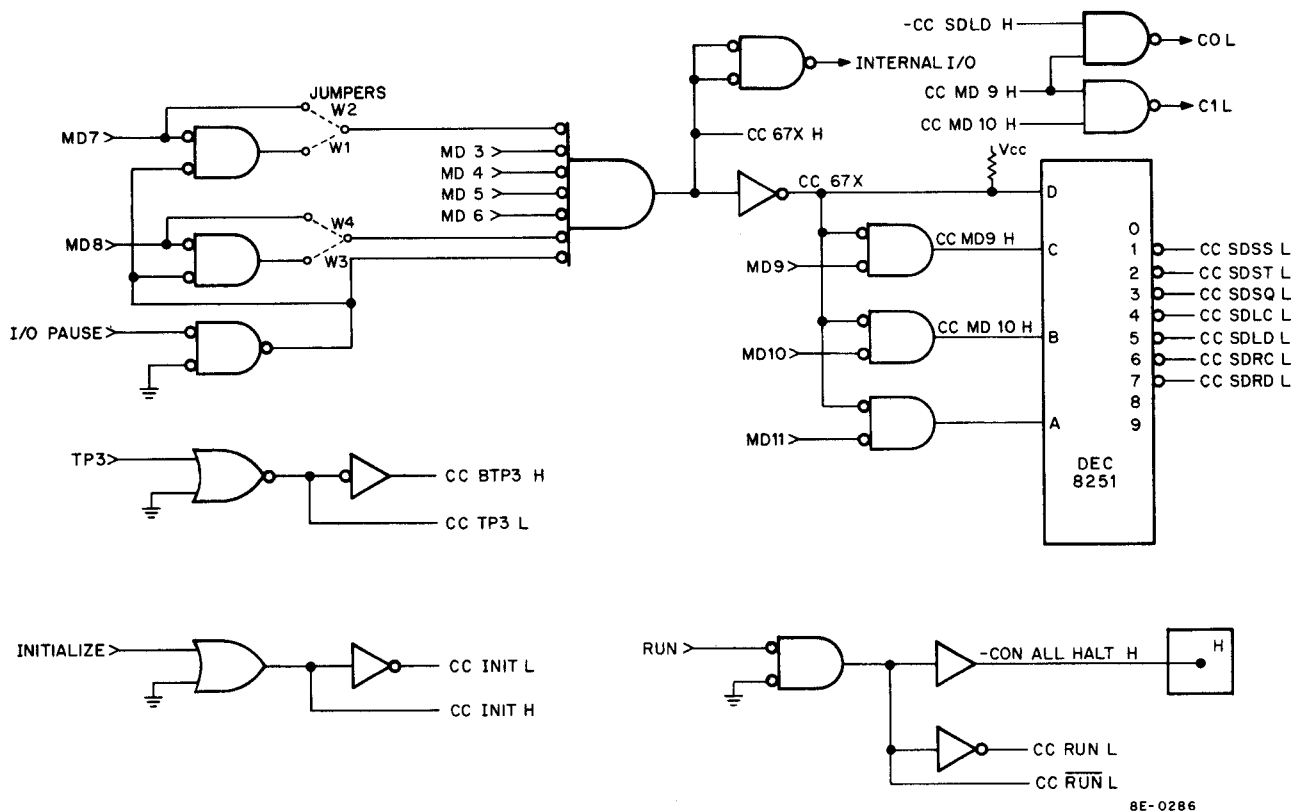

Figure 8-9 I/O Decoder Detailed Logic
The I/O decoder decodes instructions from the Memory Data Bus and generates signals to control the operation of the TD8-E (Figure 8-9). Bits MD 3–11 are gated by the I/O PAUSE when an I/O instruction is generated. Bits MD 3 to MD 8 generate a signal CC67XH applying bits MD 9, MD 10, and MD 11 to the 8251 IC. The 8251 IC is a BCD-to-Decimal decoder (see Volume 1, Appendix A, for truth table logic and pin locations) which decodes MD 9–11 and produces a low on one output line. The low out of the 8251 IC indicates which instruction is to be executed. As an example MD 9 Low, MD 10 and MD11 High (100) produces a low on pin 4 which indicates an SDLC instruction was programmed. The jumpers for MD 7 and MD 8 will select the device code (see Table 8-3 for device codes) for multiple TD8-E Systems.
8.7.1.1 C Line Select Logic – The C line logic (Figure 8-9) controls the direction of data flow between the DATA BUS and the AC and determines if the AC is clear or not. Table 8-5 shows the status of C0 and C1 to transfer data between the AC and the DATA BUS using the SDLC, SDLD, SDRC, and SDRD instructions.
8.7.1.2 Time Pulse 3 Logic – TP3 shown in Figure 8-9 is used throughout the module to enable gates for execution of instructions.
The stop/go logic (S/G) flip-flop (Figure 8-9) enables the tape to move in a direction determined by the F/R flip-flop. If AC bit 2 is a 1 when the SDLC instruction is performed, the S/G flip-flop sets. The output of the flip-flop is applied to a latch which also has TP4 as an input. TP4 clocks the latch 300 ns after S/G is set and pulls latch output low. The 300-ns delay allows the unit select lines to settle before the S/G signal is applied to the TU56M. S/G is ANDed with POWER OK to remove the GO signal from the TU56M during a power down. Power in the TU56M does not drop as quickly as power on the PDP-8/E and the tape may continue to run and write erroneous data.